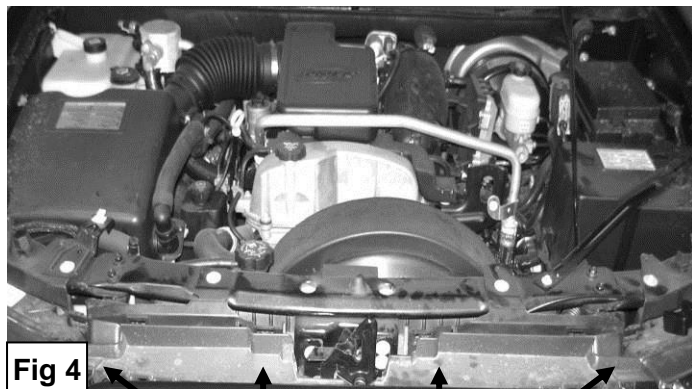
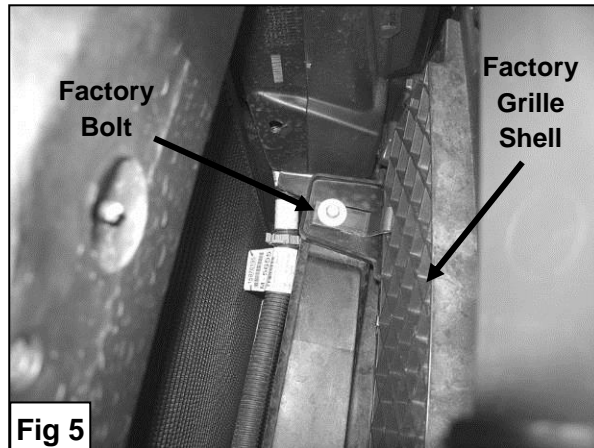

Fig 4
Fig 5
- Open the hood and remove the four screws across the top of the factory grille shell (**Figure 4**). Once you have removed the screws, gently pull on the grille shell just enough to gain access to remove the factory bolt on each side of the bottom grille shell support (**Figure 5**). **WARNING!** Do not pull too much on the factory grille shell or damage to the grille shell may occur.